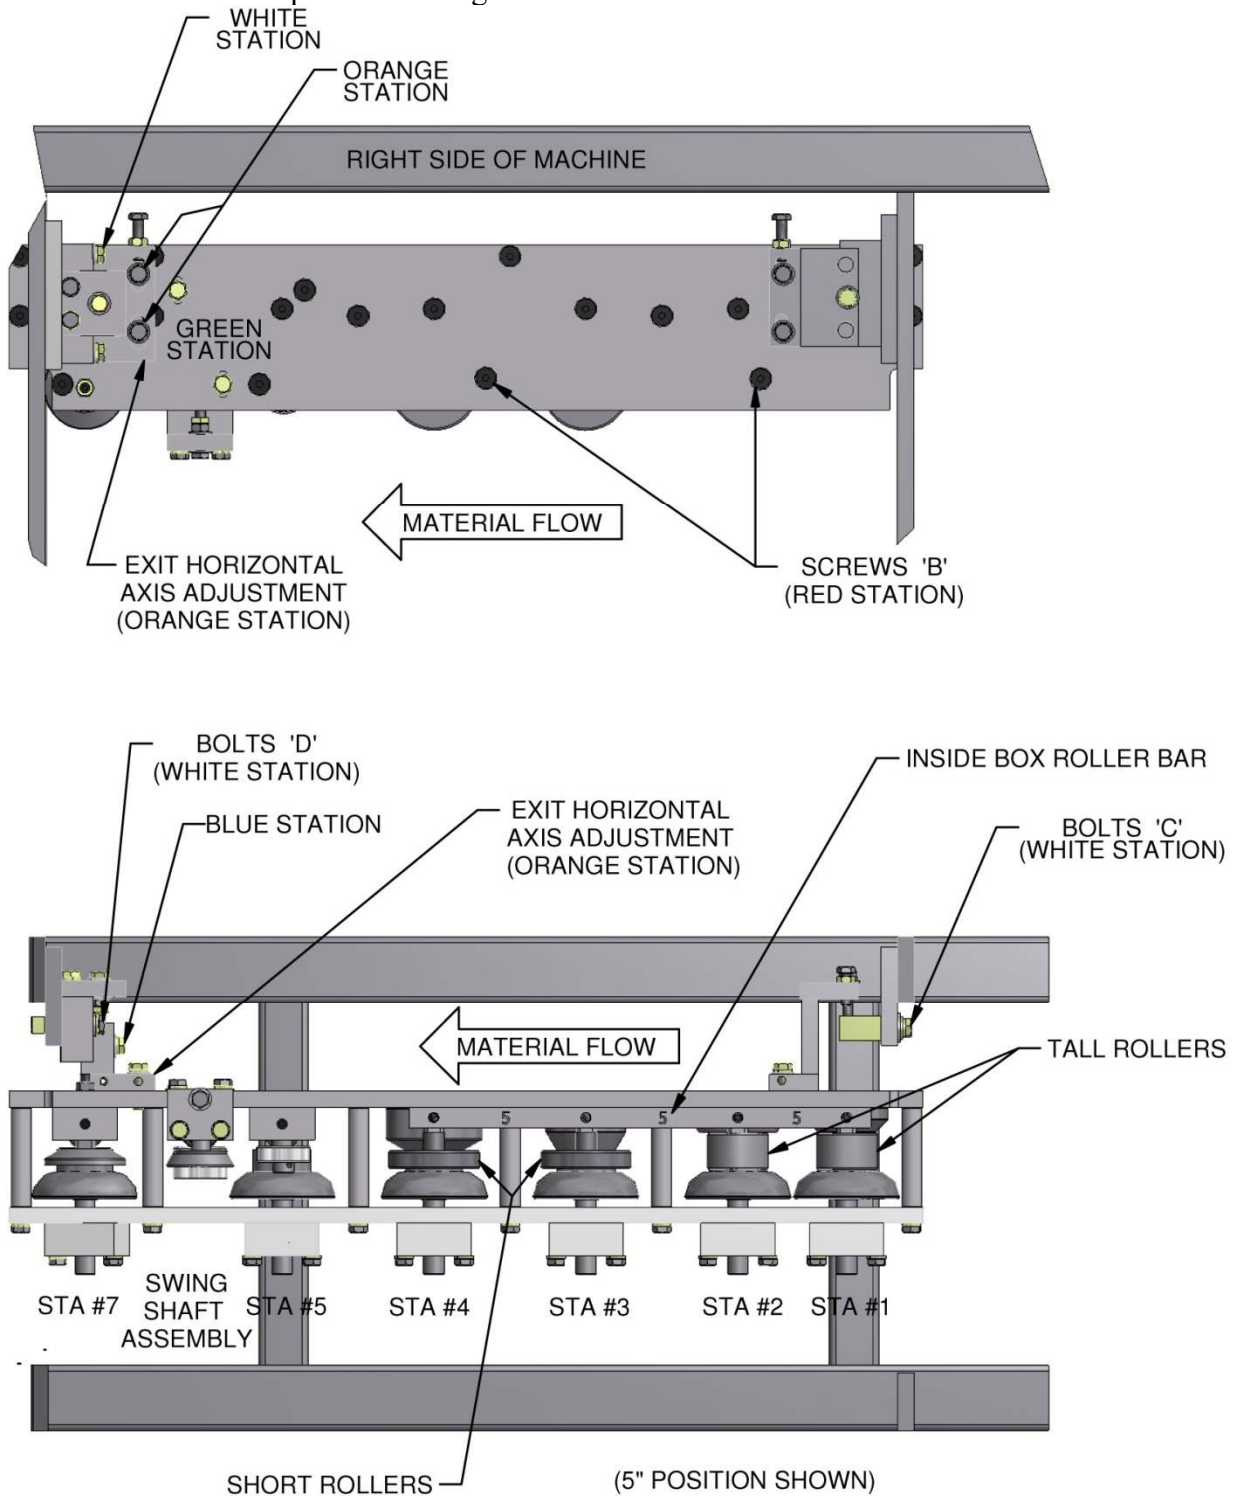
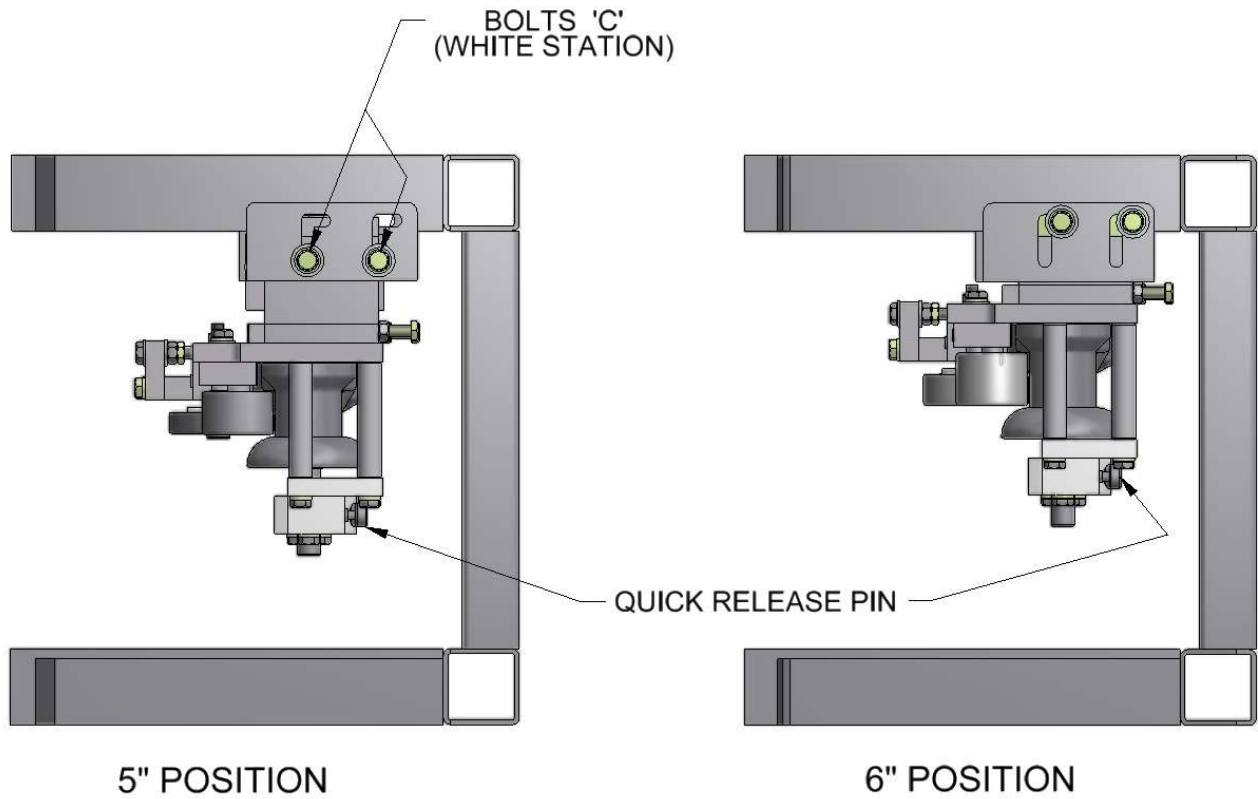

Figure 51: Combo Box Assembly
Figure 52: Combo Box Assembly Positions
(Figure 51 & Figure 52)
Remove the inside box roller bar assembly by removing the two (2) **red** marked screws "B", located on the top of the box (Figure 51). Set this assembly aside.
(Figure 51 and Figure 52)
The tall rollers locate in the station #1, and #2 positions while the short rollers locate in the station #3, and #4 positions. Re-install the 2 (two) **red** marked screws "B" and tighten (Figure 51).